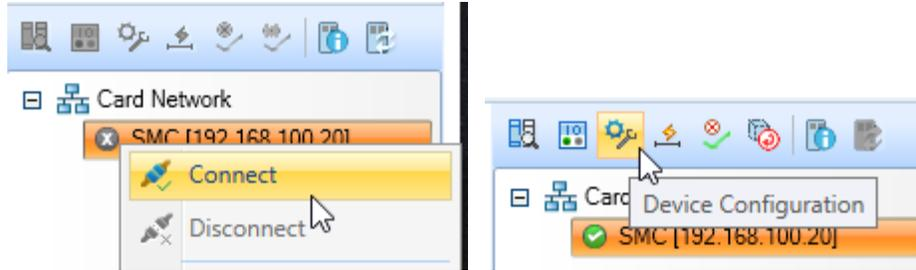

Figure 4 - SMC connection via ScanMaster Designer
2. Connect to the SMC and then open the device configuration editor as shown in Figure 4 SMC connection via ScanMaster Designer